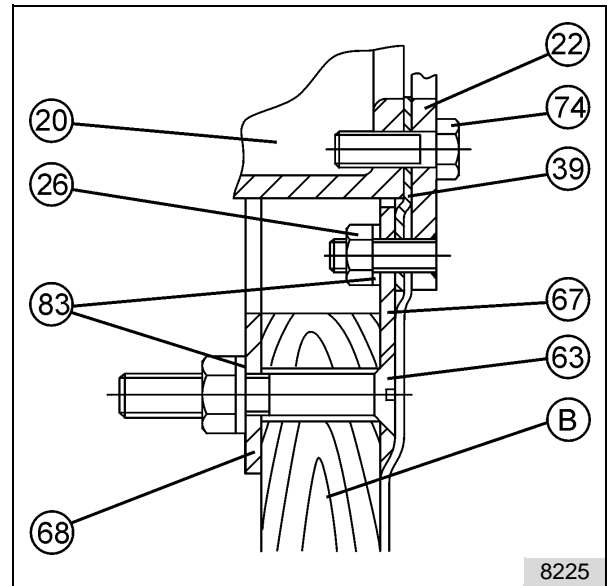

fig. 18: Detail from fig. 17
- N* For details see fig. 18
Then mount the installation kit (92) on the clamp ring (22) with the screws (74). See also detail "N" in fig. 18.